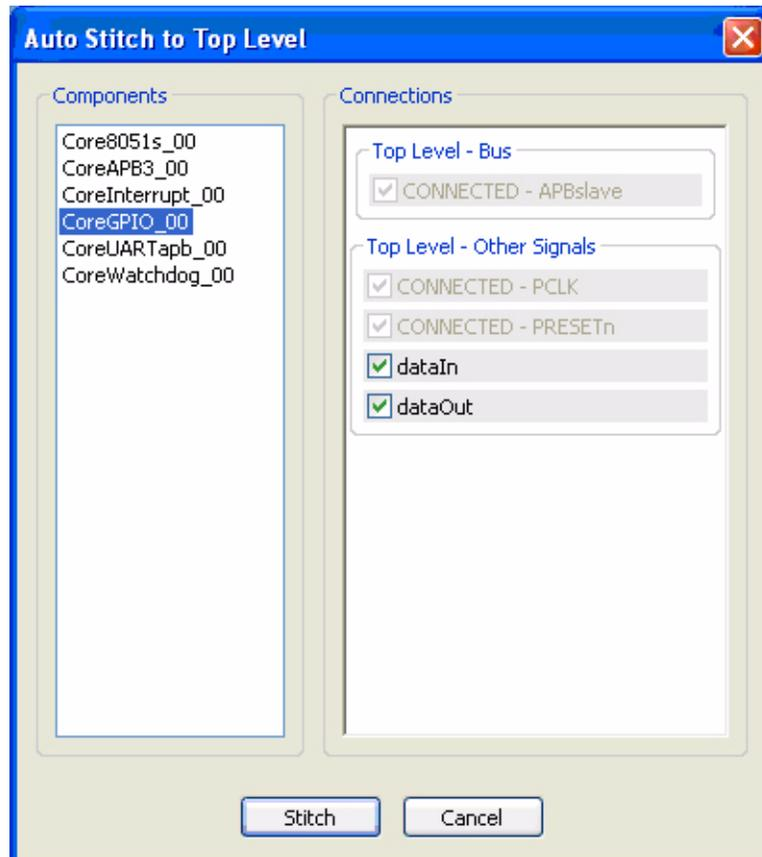

Figure 3-5. Example CoreGPIO_00 Components
8. Select the **CoreGIPO_00** component in the open window. None of the settings in this window need to be changed. Click **Stitch** when ready. See Figure 3-5.